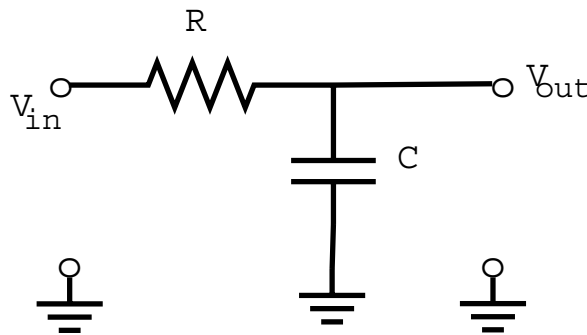

Figure 26: Basic RC circuit
One possible configuration of a basic RC circuit is shown in Figure 26.
1. Connect the circuit of Figure 26, using a function generator for the input voltage, a 10 k Ω resistor, and a 100 nF capacitor.
When a sinusoidal voltage is applied to the input, we get a sinusoidal voltage across the capacitor in Fig. 26, but this voltage is out of phase with the input voltage.